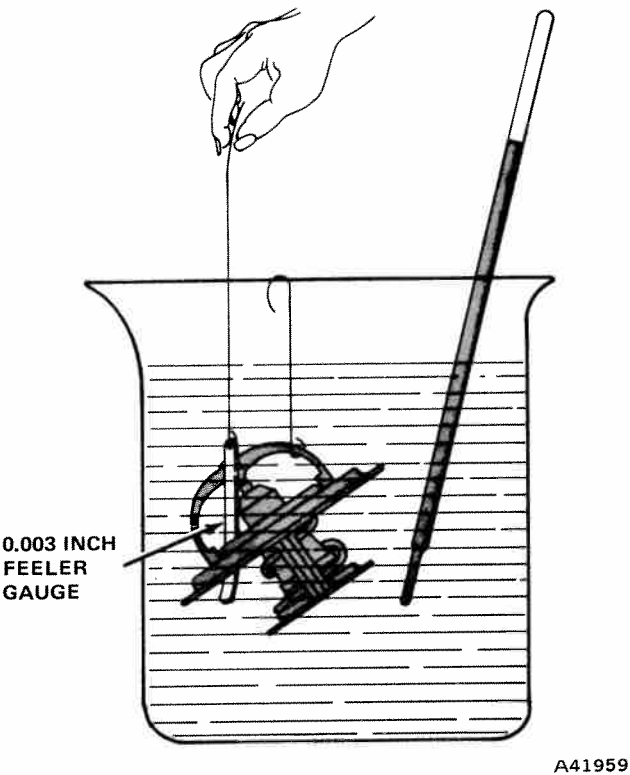

Fig. 2-13 Testing Thermostat
- (1) Remove thermostat.
- (2) Insert 0.003-inch feeler gauge, with wire or string attached, between valve and its seat (fig. 2-13).